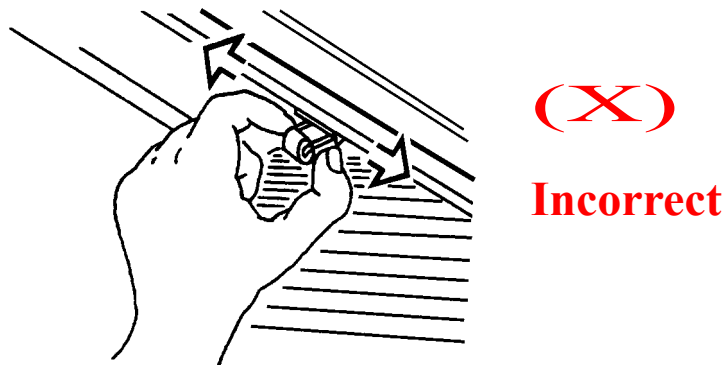

Figure 2-20
3. Do not move it by holding its front rubber roller (**Figure 2-20**).